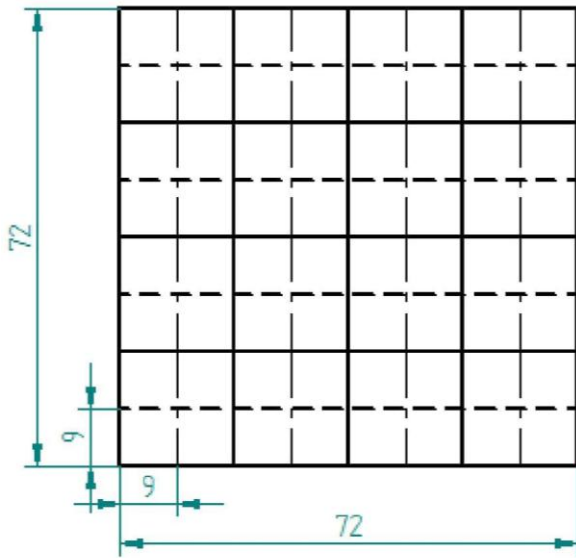
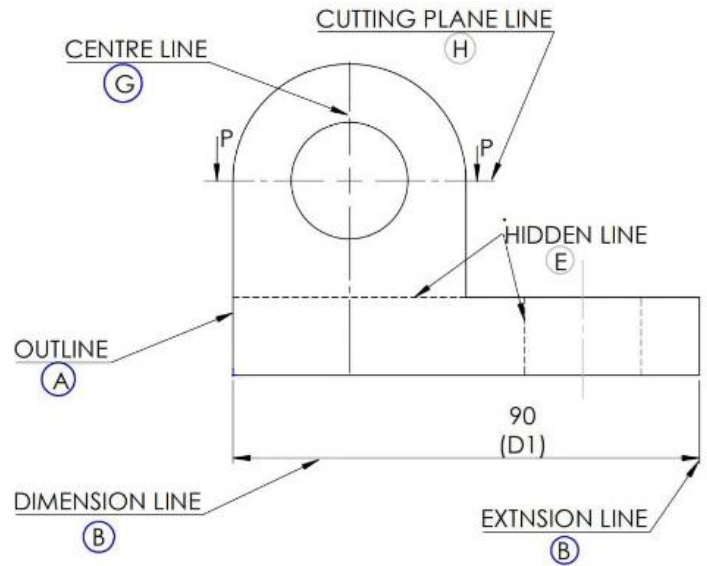

Fig. 1
Fig. 2
- Draw Fig. 1 & Fig. 2 as per the drawing and identify types of lines.